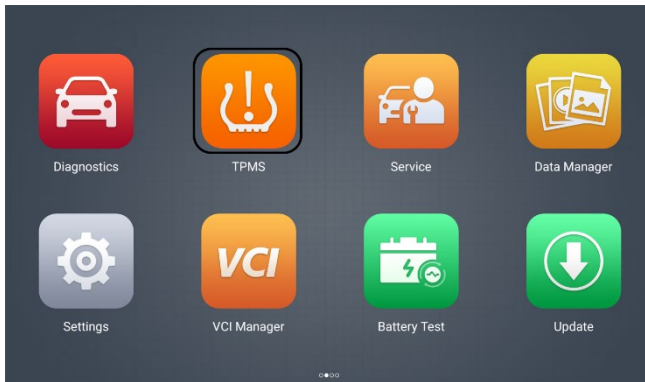

Figure 5-2 MaxiCOM Home Menu
1. Tap the **TPMS** application button from the MaxiCOM Home Menu (Figure 5-2). The Vehicle Menu displays.